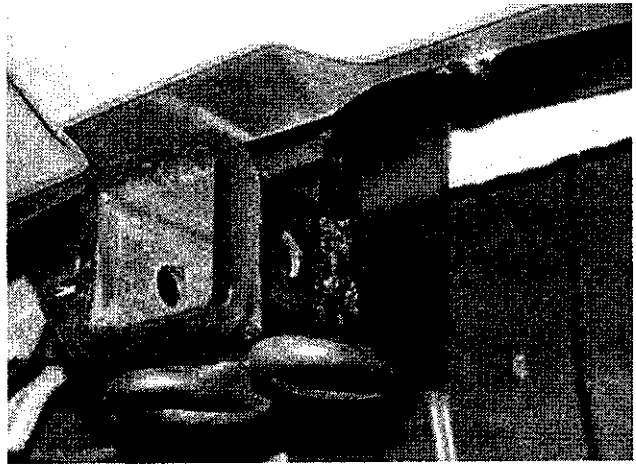

Figure 10
5. Thoroughly paint welding beads (Figure 10) and any metal exposed during grinding (in area of 4 weld points), and welder's ground point inside the square tube: